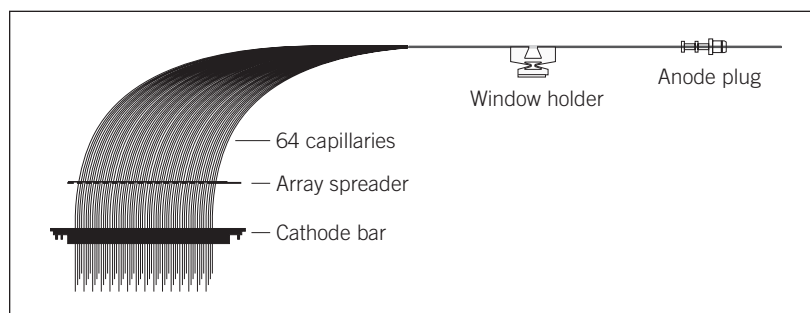

Figure 7-4. A capillary array.
The structure of a capillary array is shown in figure 7-4.
2. Remove the capillary array from its box by grasping the cathode bar (figure 7-4). Hold onto the cathode bar and let the rest of the array hang down in a straight line.